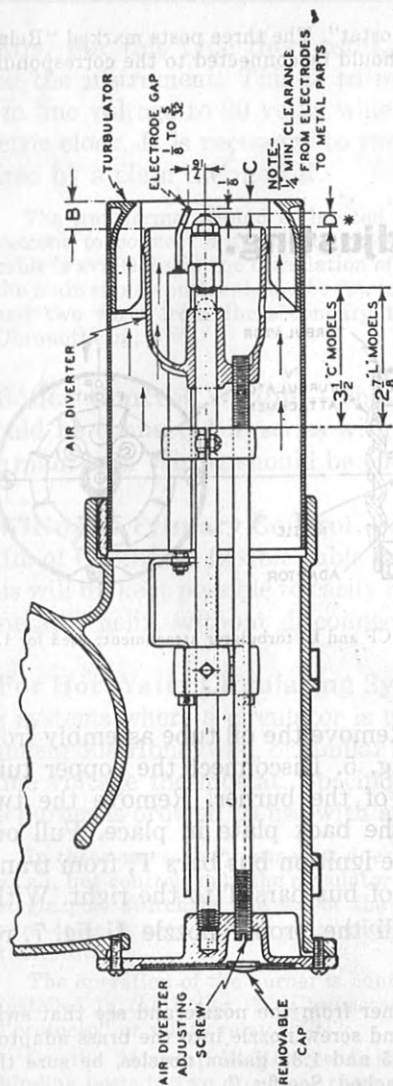

FIG. 8.—Arco air diverter and electrode setting — Models C-CF and L.
3. Check electrodes. Use a ruler to make these measurements. See fig. 8. Gap $\frac{1}{8}$ in. to $\frac{5}{32}$ in. Electrodes are set approximately $\frac{1}{8}$ in. in front of nozzle and $\frac{7}{16}$ in. above the nozzle center. Bare electrode wires shall clear all metal parts by at least $\frac{1}{4}$ in.
Final Adjustments.—1. Important. Be sure that the flame does not lick back into the air diverter W. The base of the flame should float about two (2) inches from end of air tube. This can be seen with a flame mirror. Turning the adjusting screw fig. 8, to open, will cause the flame to float further away from the end of the air tube and vice versa.